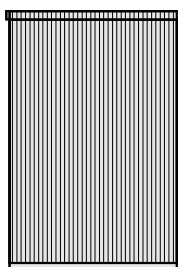

Fig. 1
- Ordered shades that are within the maximum width of the fabric will be made with the fabric vertically oriented (Fig. 1).